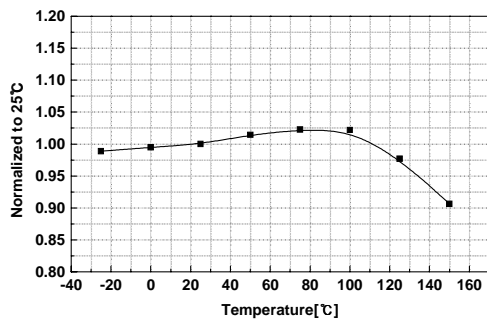

Figure 9. Shutdown Delay Current vs. Temp.
6. Burst mode operation : In order to minimize the power dissipation at standby mode, FS8S0765RCB has a burst mode operation. In burst mode, the FPS reduces the effective switching frequency and output voltage. The FPS enters into burst mode when the voltage of the soft start pin is higher than 3V, no sync signal is applied and the feedback voltage is lower than 1V. During the burst mode operation, V_{cc} is hysteresis controlled between 11V and 12V. Once the FPS enters into burst mode, it stops switching operation until V_{cc} drops to 11V. When V_{cc} reaches 11V, the FPS starts switching with switching frequency of 40kHz and peak MOSFET current of 0.6 A until V_{cc} reaches 12V. When V_{cc} reaches 12V, the switching operation is terminated again until V_{cc} reduces to 11V. Figure 9 shows operating waveforms. The soft start during the initial start-up is shown in the section 1. During this period, there is no external sync signal and the switching frequency is 20kHz. The section 2 represents the normal mode operation. The switching frequency is synchronized with the external sync signal. In the section 3, the external sync signal is removed. However, the load still exists and thus the feedback voltage (V_{fb}) is higher than 1V. In this period, the FPS does the normal switching operation with switching frequency of 20kHz. The section 4 and 5 show the burst mode operation. At the end of the section 3, the load is eliminated and the feedback voltage (V_{fb}) drops below 1V forcing the FPS to stop switching operation. During the section 4, V_{cc} goes down to 11V. During section 5, V_{cc} is hysteresis controlled between 11V and 12V. When the external sync signal is applied on the pin 5, the FPS resumes its normal operation. In order to minimize the power con-